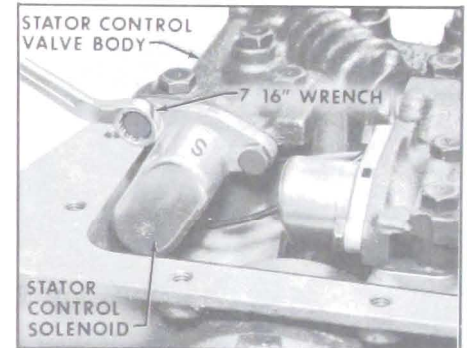

Figure 5-341
7. Install stator control solenoid and gasket to stator control valve body. Torque bolts to 8-12 ft. lbs. See Figure 5-341.